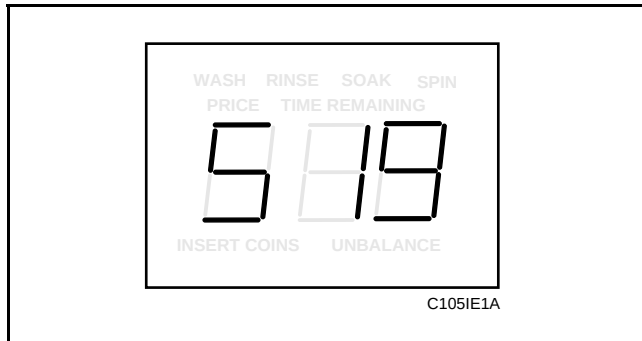

Figure 37
2. While pressing and holding the PERM PRESS keypad with one hand, press the COLD keypad with the other hand. Programmable option number one, “Slg”, will appear in the VFD. See **Figure 37**.